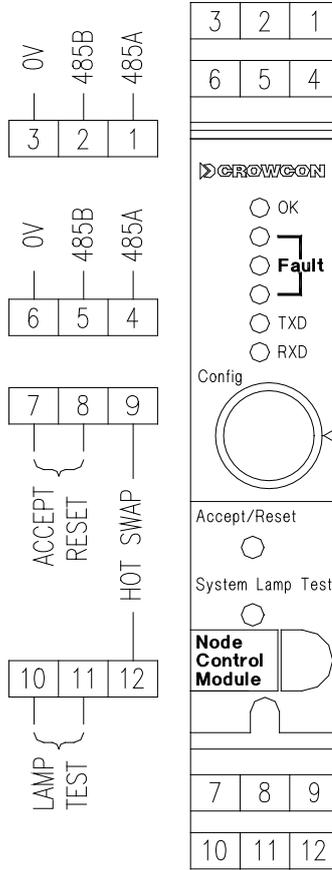

Figure 17: Wiring diagram for the Node Controller Module
1. To use Hot Swap, connect node controller terminal 9 to terminal 12 while in run mode (not held on a channel). See Figure 17 in Appendix B.